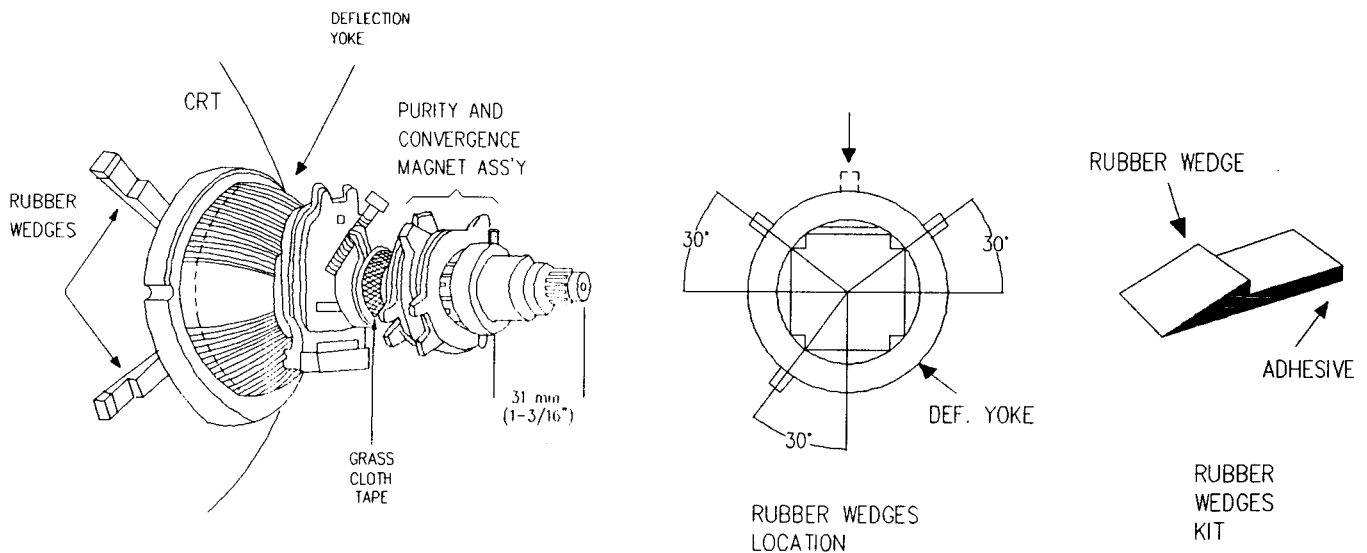

Figure 1 TUBE ASSMEBLY
- 2) Put a wedge as shown in Fig. 1 temporarily (Do not remove cover paper on adhesive part of the wedge).
- 9) Stick 3 adhesive tabs on the wedges as shown in Fig. 1.